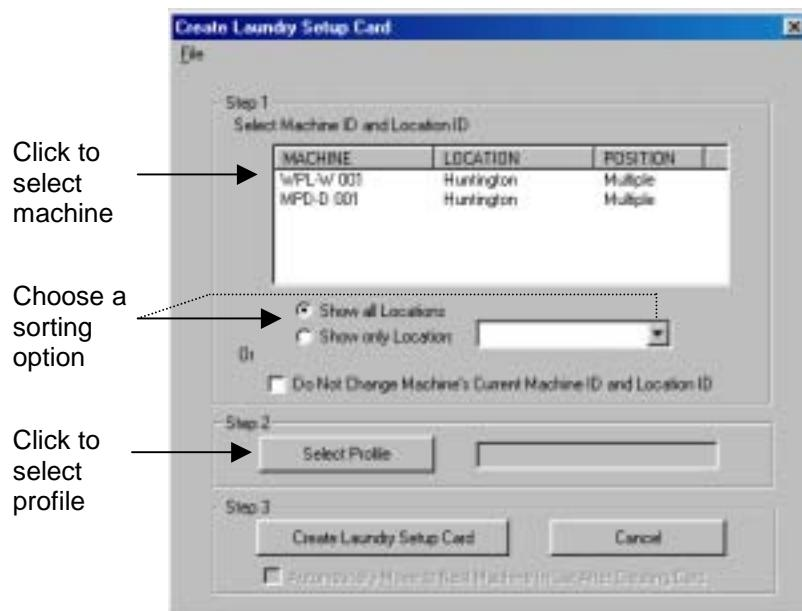

Figure 8.30 Laundry Setup Card Creation Steps
- Select a Machine ID with a corresponding Location ID by clicking on it. There are two ways to view the machines in the database (Figure 8.30):
- Click the Select Profile button (Figure 8.30).